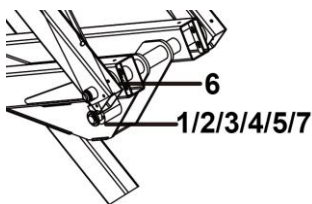

Fig. 3.15 Assembling the lower lift cylinder
a. Use the traveling crane to hoist the cylinder with the mounting holes at the bottom of cylinder aligned with the holes on the first inner arm as shown in Fig.1, fix the cylinder with part 1, and separate the bottom of the cylinder from the inner side of the first inner arm with part 6, as shown in Fig. 3.15.